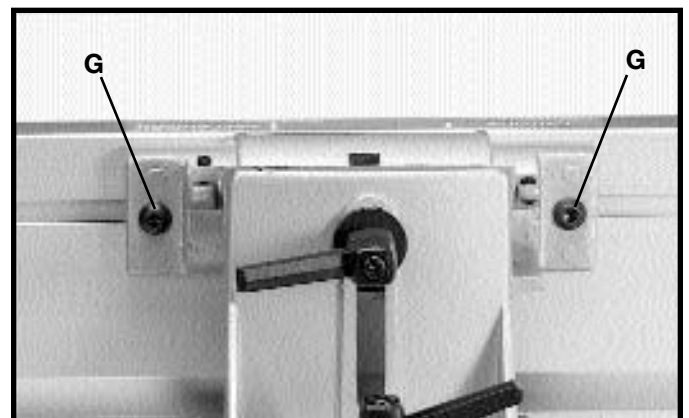

Fig. 12
6. Tighten two screws (G) Fig. 12.